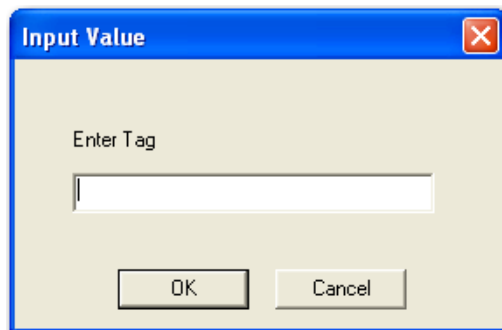

Figure 35 Input Value
1. Select **Find by Tag** and Figure 35 appears.